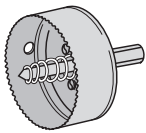

Fig. 16a Hole saw
■ Achieved with fine-tooth **9105 Hole Saw** attached to drill (Fig. 16a)